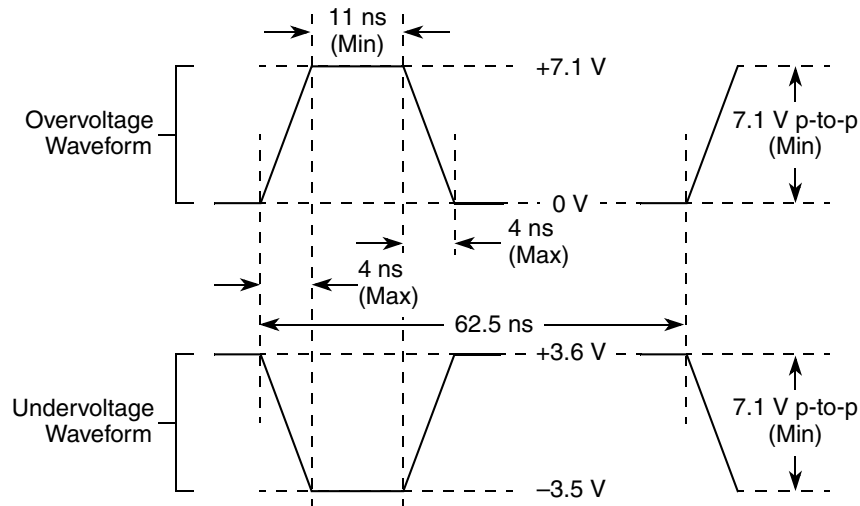

Figure 3. Maximum AC Waveforms on PCI Interface for 3.3-V Signaling
- OV_{IN} on the PCI interface can overshoot/undershoot according to the PCI Electrical Specification for 3.3-V operation, as shown in Figure 3.
Figure 3 shows the undershoot and overshoot voltage of the PCI interface of the MPC8343EA for the 3.3-V signals, respectively.